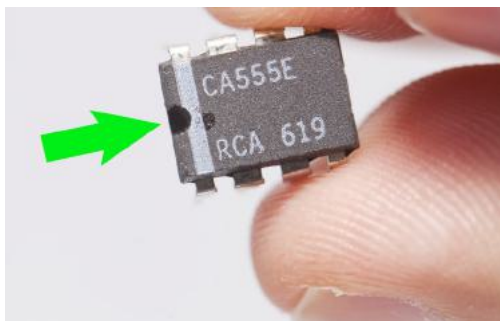

Figure 2-6. Pins are numbered counter-clockwise from the notch
For the CA555E, hold the half-moon notch to the left and the pins away from you. See Figure 2-6. Pin 1 is the bottom left, and the numbers increase counter-clockwise. Thus, the last pin (8) is at top left. To make your life easier, the circuit diagrams in this book have small pin numbers on the 555 chips.